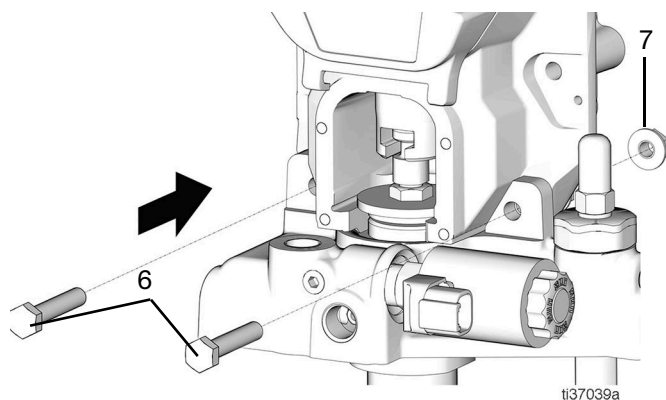

FIG. 68
28. Place two bolts (6) into the pump assembly to hold the gear head and pump assembly in place and tighten slightly the two nuts (7) (FIG. 68).